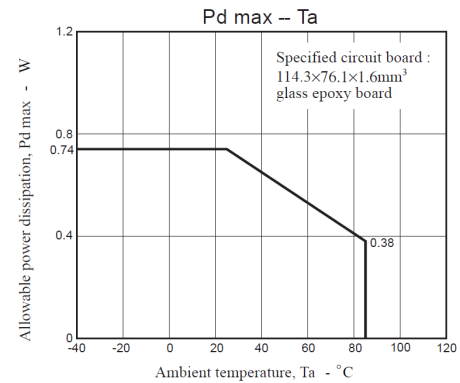

Figure 5: Power constraint over the ambient temperature
**The switching Regulator DC/DC Controller LV5066V** The last element of this analysis is a step-down switching regulator controller: it has one channel with an operation current of  $80\mu A$  and low power consumption. Also, from Figure 5 it can be observed the evolution of the allowable power dissipation depending on the ambient temperature: it can be seen how there is a clear power constraint, with a linear decrement of the latter during the interval representing the normal temperature range of a room.